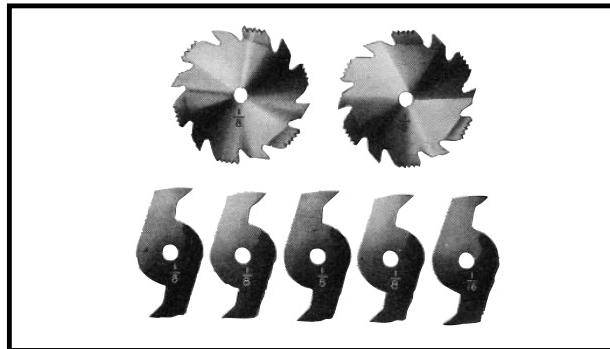
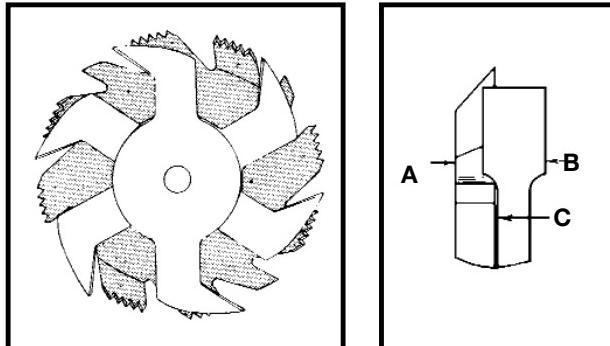
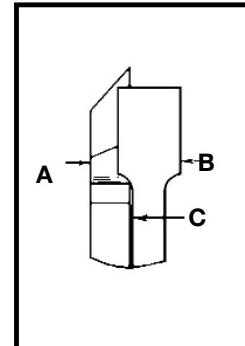

Fig. 48A
Fig. 49
Fig. 50
- Dadoing is cutting a rabbet or wide groove into the work. Most dado head sets are made up of two outside saws and four or five inside cutters, (Fig. 48A). Various combinations of saws and cutters are used to cut grooves from  $1/8"$  to  $13/16"$  for use in shelving, making joints, tenoning, grooving, etc. The cutters are heavily swaged and must be arranged so that this heavy portion falls in the gullets of the outside saws, as shown in Fig. 49. The saw and cutter overlap is shown in Fig. 50, (A) being the outside saw, (B) an inside cutter, and (C) a paper washer or washers, used as needed to control the exact width of groove. A  $1/4"$  groove is cut by using the two outside saws. The teeth of the saws should be positioned so that the raker on one saw is beside the cutting teeth on the other saw.